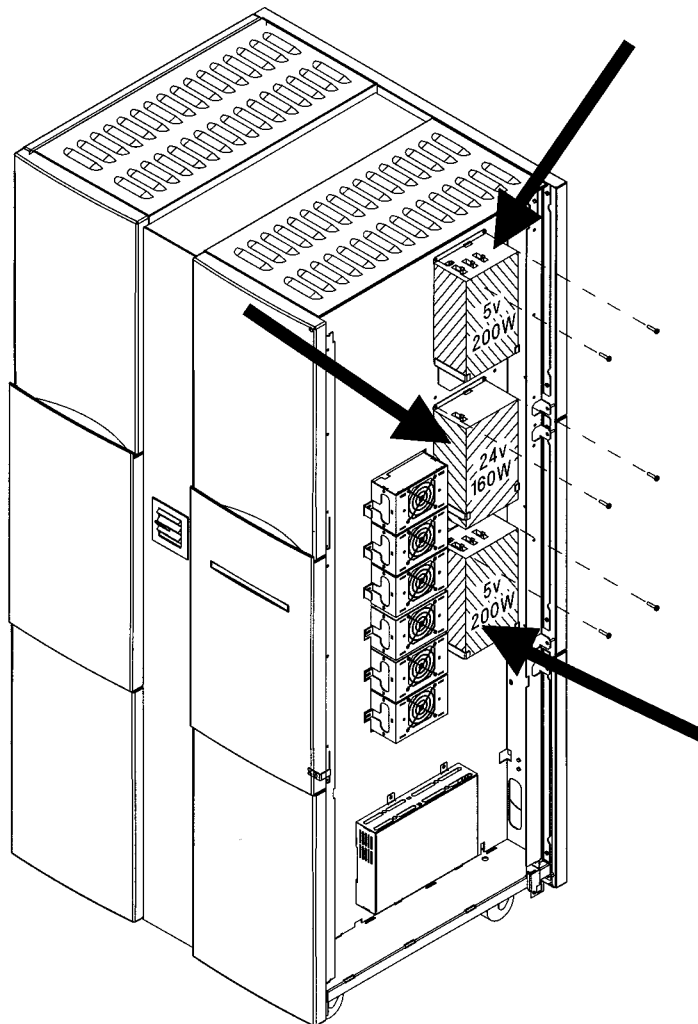

Figure 54: Cables and Mounting Screws on the Power Supplies
2. Remove the cables from the power supply that you are replacing (see Figure 54).